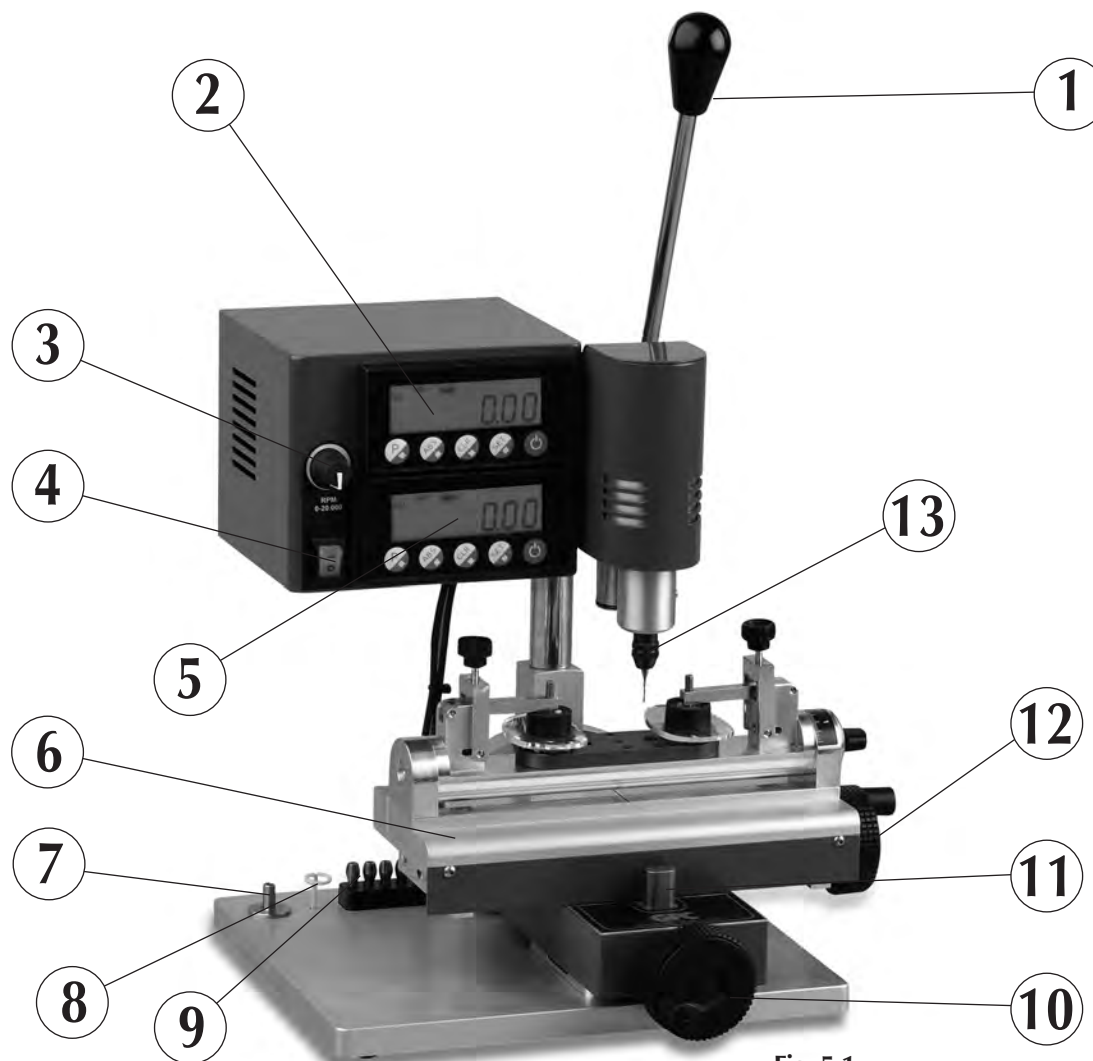

Fig. 5.1
Before carrying out the following operations always check to make sure that the head is secured to the column via the locking knob. Lift the machine manually, using the points indicated in Fig. 3.1, and position it on a perfectly horizontal surface near the operator so as to guarantee that it is sufficiently stable, after making sure that the cut-out switch is in the OFF position ref. 4 Fig. 5.1, connect the power lead, plugging in the side on the machine first and the plug side next .